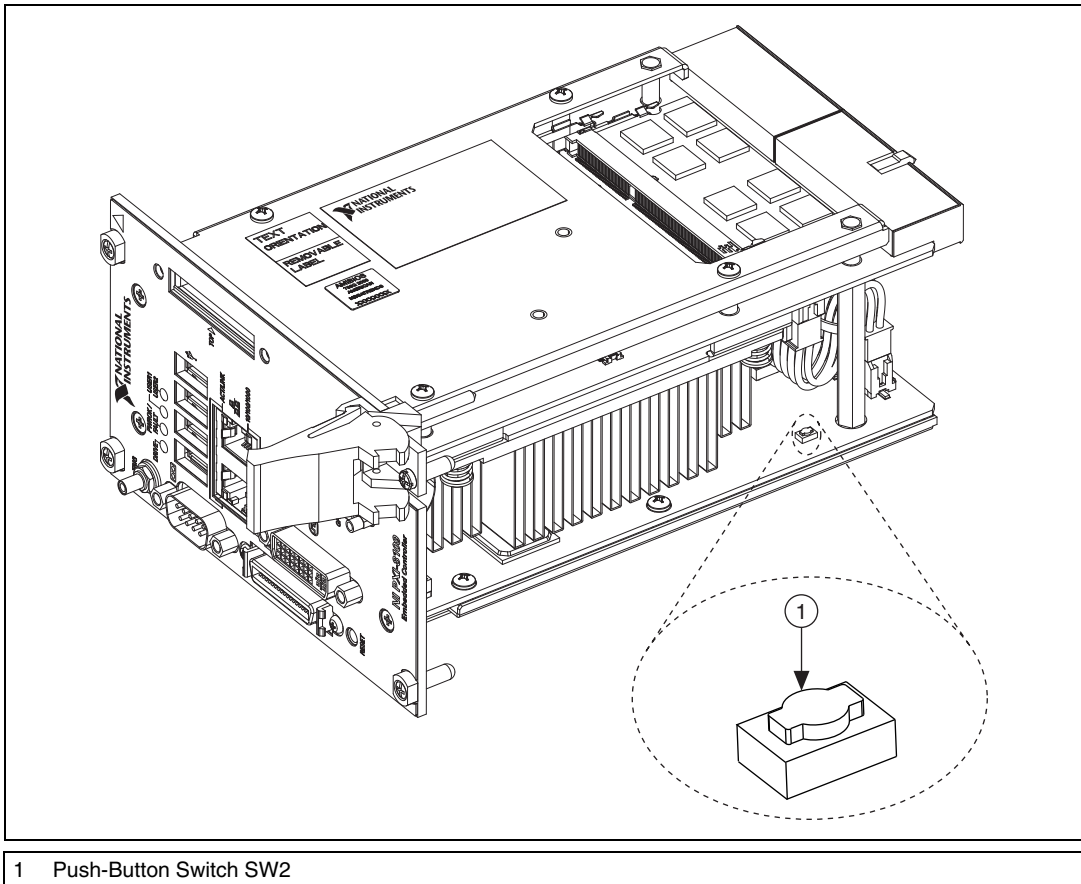

Figure 2-3. Clearing the CMOS Contents
3. Press the push-button switch, as shown in Figure 2-3.